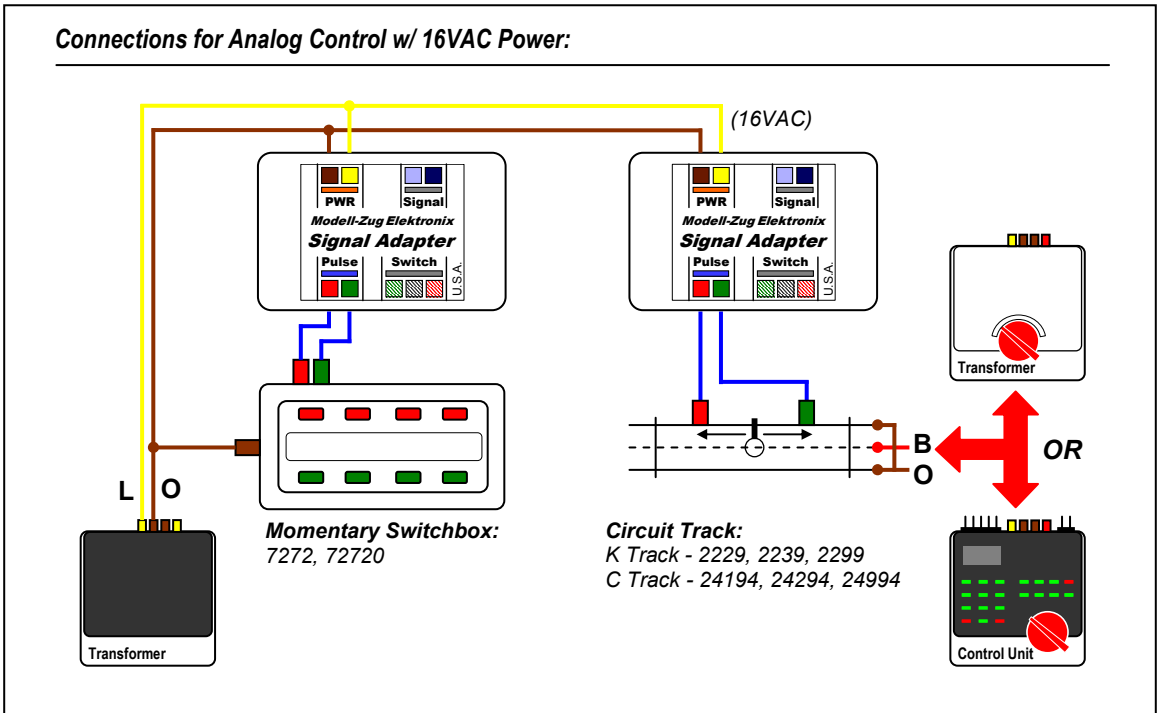

Figure 3a. Input Connections – Analog Control & 16VAC Power
- 1b) If the *Signal Adapter* will be operated using analog controllers, such as a momentary switchbox or circuit track, the Pulse and Power Inputs should be connected as shown in either Figure 3a or 3b. (Note: When using 16VAC power as in Figure 3a, the power source for train operations is independent of the *Signal Adapter* and may be either a conventional train control transformer or digital controller. If a conventional transformer is used for train operations on smaller layouts, its 16VAC L-O accessory output may be used in place of the separate accessory transformer shown in Figure 3a.)